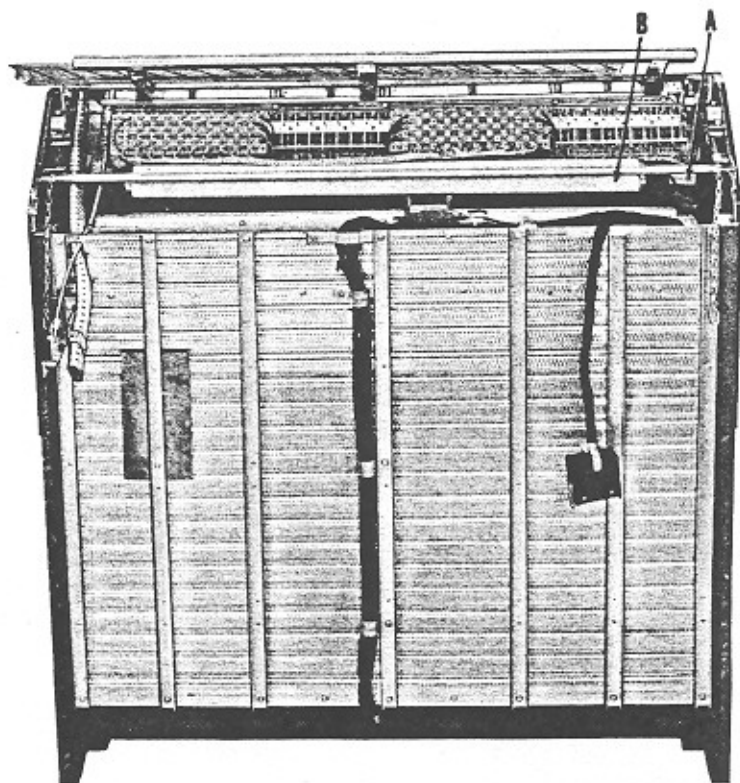

FIG. 3—Inside View of Front Door
1. One 20-watt fluorescent tube supplies lighting to the front door. The tube is shown at (B-Fig. 3). The starter (A-Fig. 3) is located at the right side of the door.